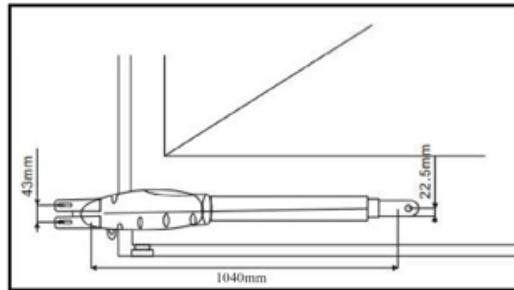

Figure 11
10) Refer to Figure 11, the distance between front plate of the motor and rear plated is 798mm, the difference in height is 22.5mm